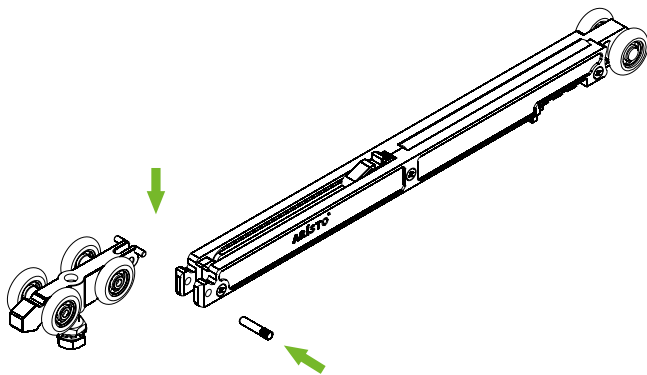

Fig. 2
❷ Connect the Top Roller ARPP-01C with to the Soft Closer ARPP-10 using the designated pin (Fig. 2).